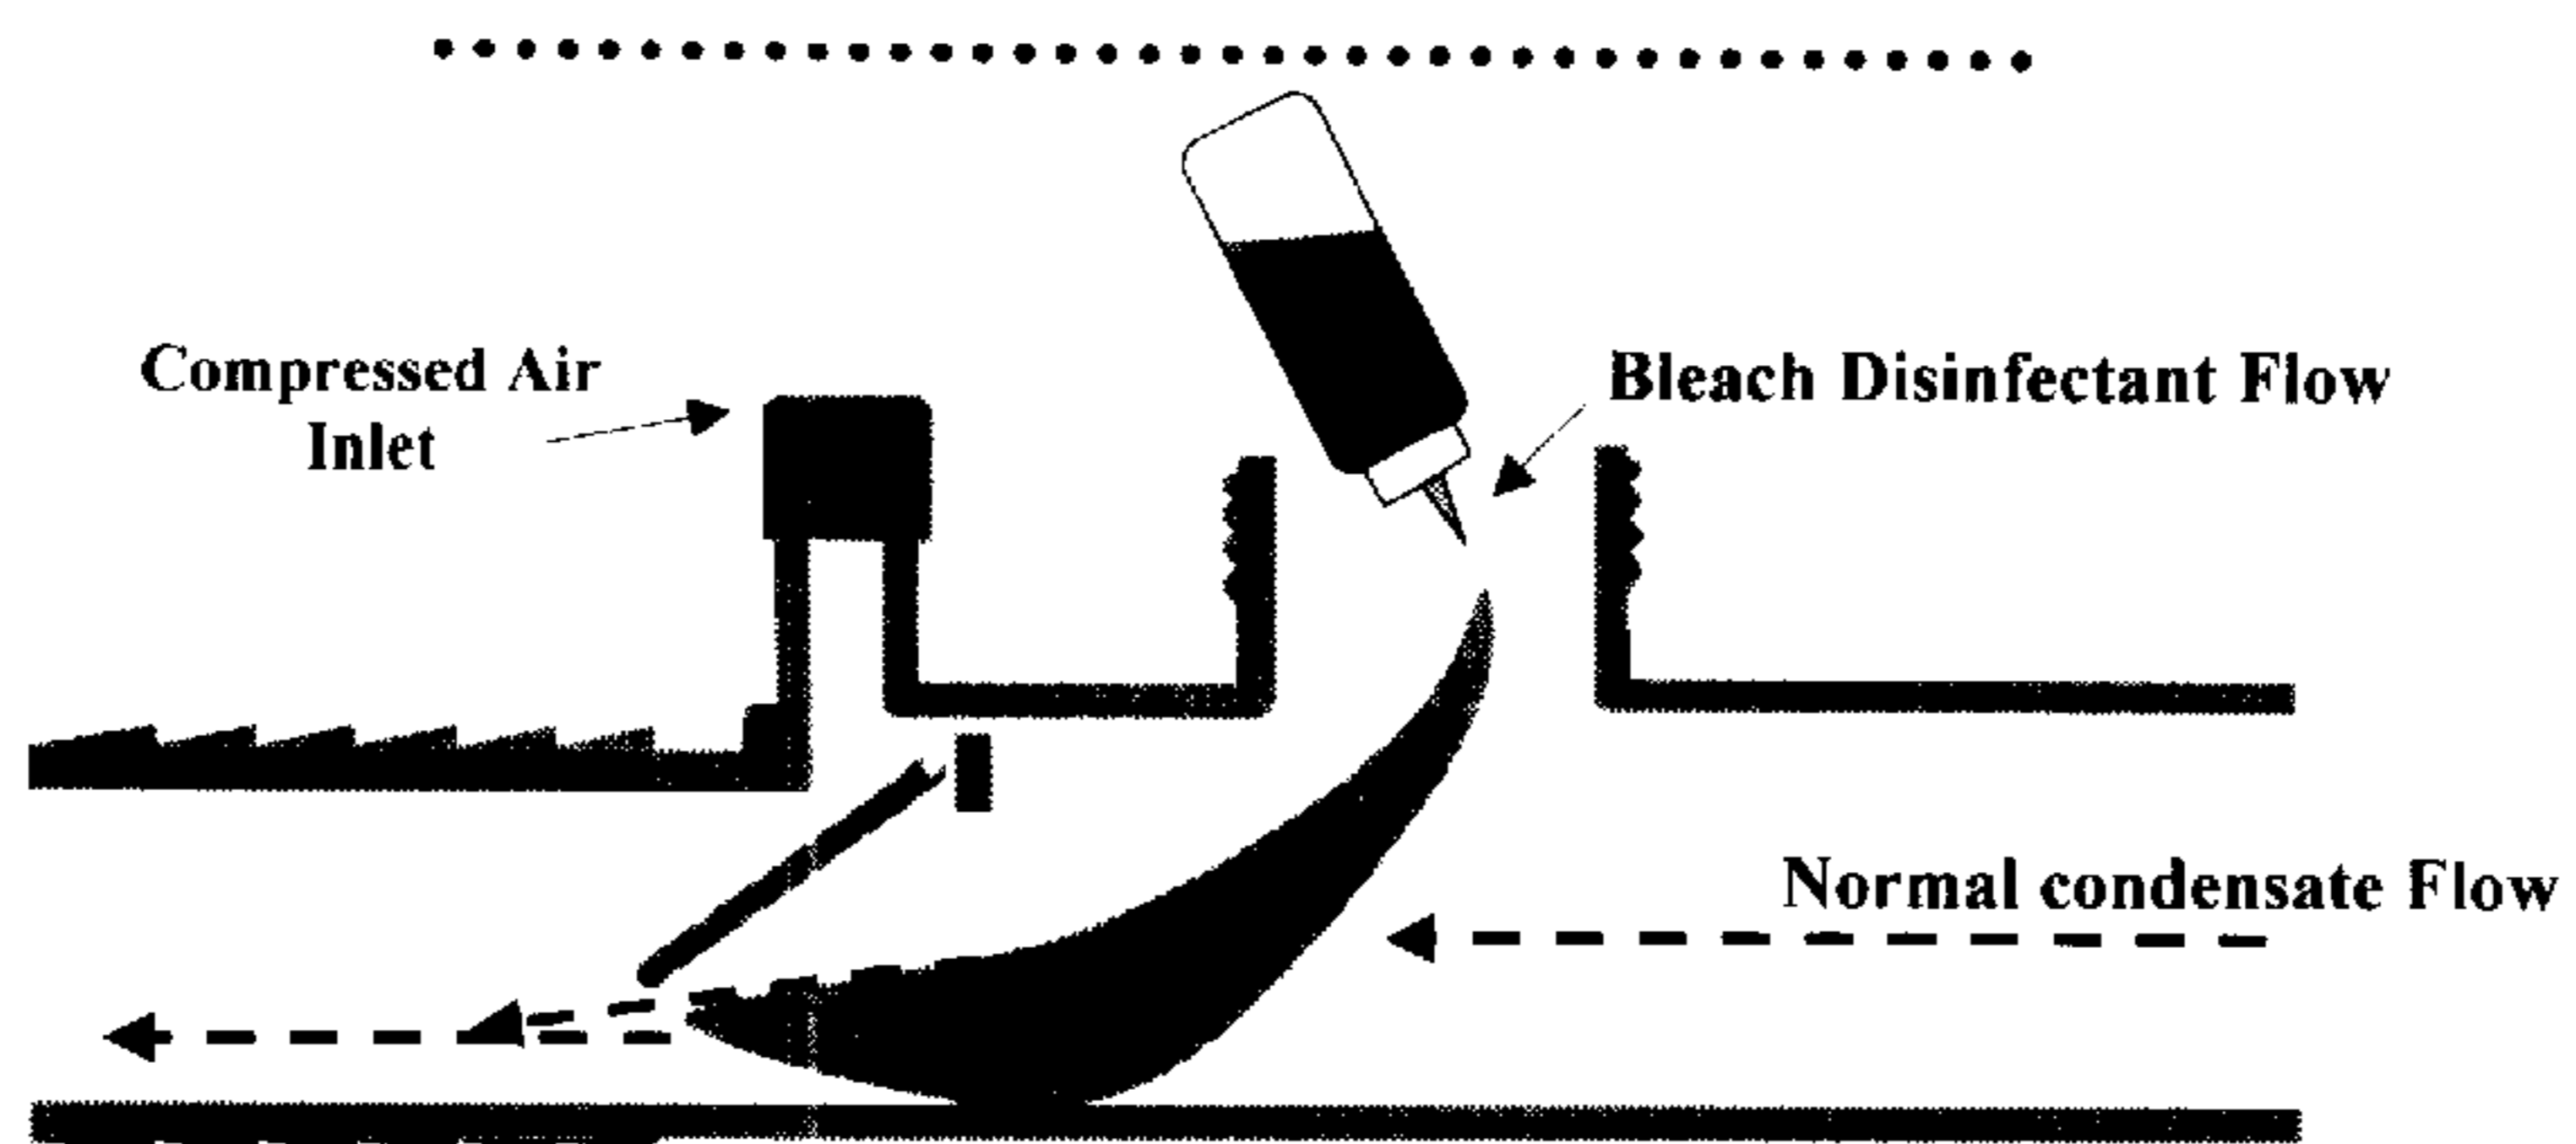

FIG. 10: DISINFECTANT FLOW PATTERN: Disinfectant flow through Enviro-Clean valve toward condensate trap.
10. FIG. 10: Disinfectant Flow Pattern